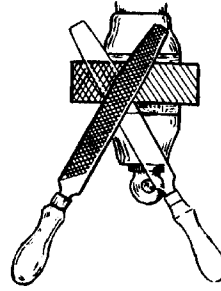

FIG. 4 CROSSING STROKE
7. In rough filing with a "double cut coarse" file, use the crossing stroke at about 30° from the previous stroke (Fig. 4)